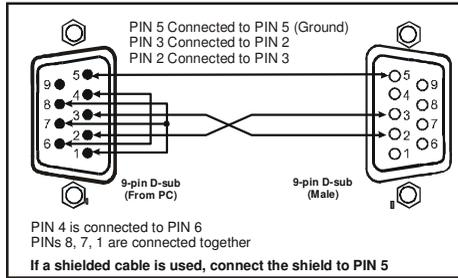

Figure 4: Connecting a PC without using a Null-modem Adapter
- Connect the RS-232 9-pin D-sub port on your PC to the RS-232 9-pin D-sub rear panel port on the Master **VP-12x8** unit, as Figure 4 illustrates